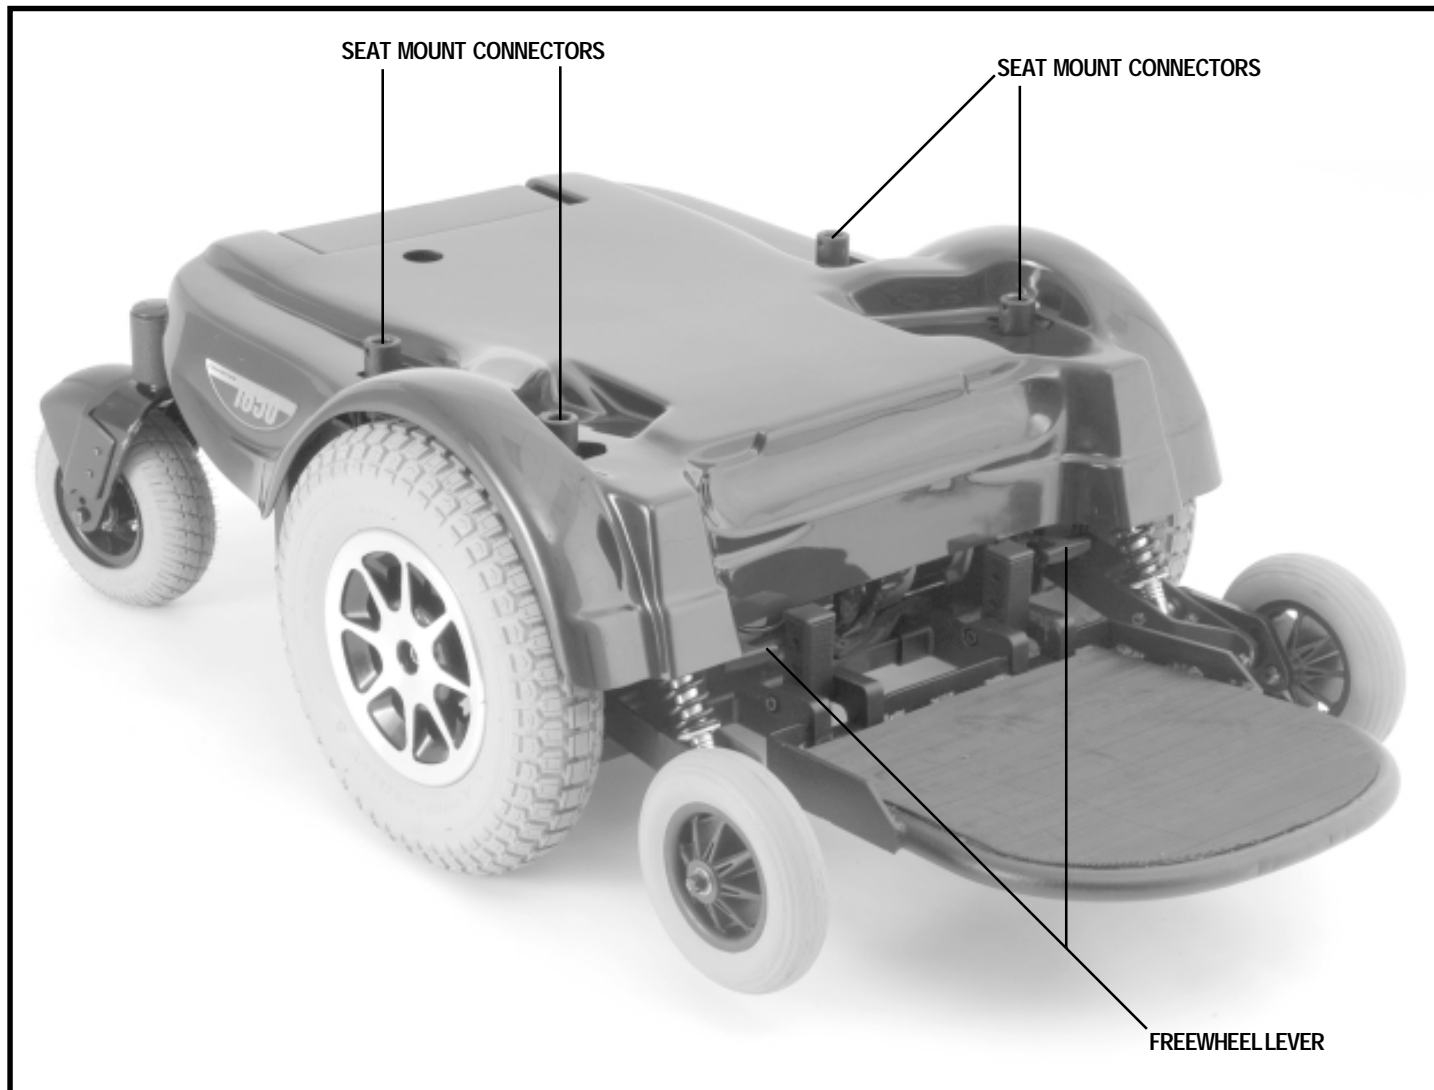

Figure 6. The Quantum Jazzy 1650 Series Power Base
10. Plug the controller cable into the connector on the power base. See figure 6.